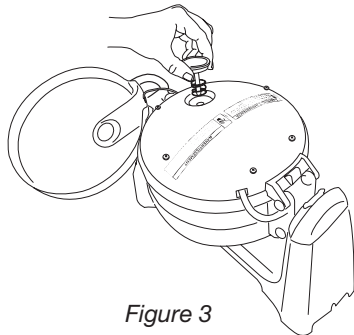

Figure 3
- Remove two (2) Phillips screws and lift metal cover.
- Replace the dial thermometer and reassemble. (See Figure 3)